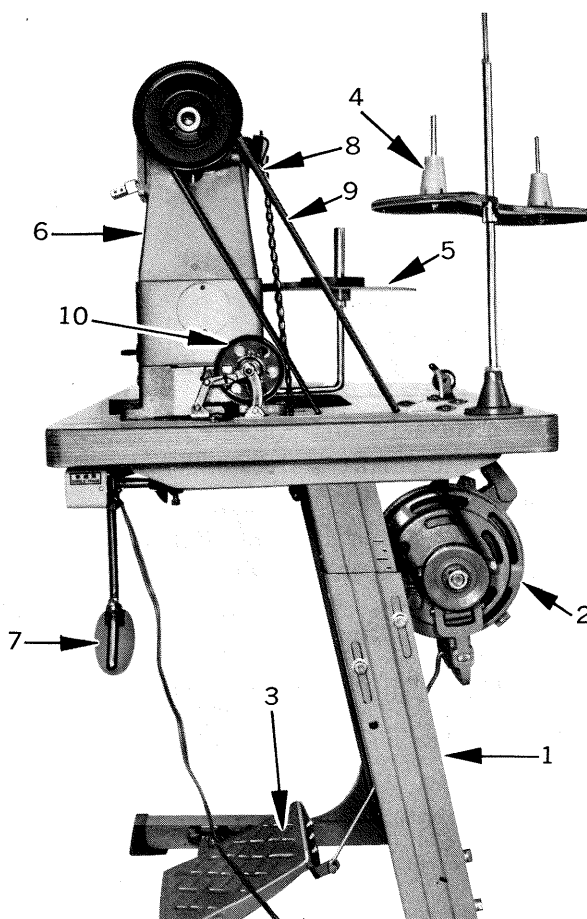

Fig. 1
SETTING UP THE MACHINE (Fig. 1)
1. Push a bobbin on the bobbin winder spindle (1) as far as it will go.
2. Pass the thread from the thread stand downward through the eye (7) in the tension bracket, then between and around the back of the tension disc.
4. Push the lever (3) toward the other side so that the pulley (2) and V belt (9, Fig. 1) will engage and then start the machine.
5. The pulley (2) will automatically be free from the belt and stopped after the bobbin is filled with thread.